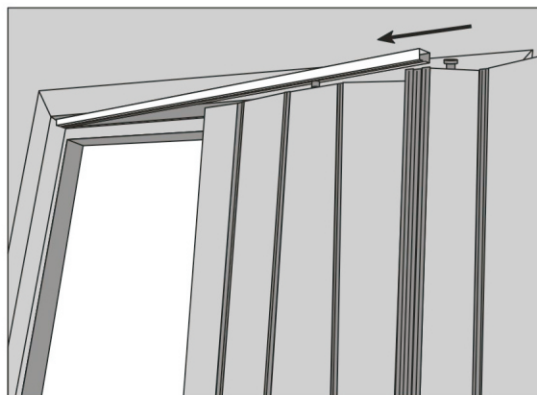

fig. 10
3. Carefully slide the Folding Door **A** into the Top Track **D**. See fig. 10.